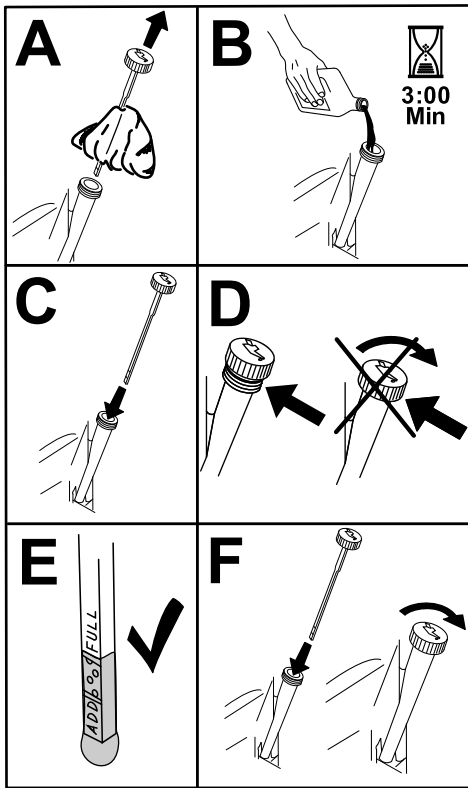

Figure 29
5. Slowly pour approximately 80% of the specified oil into the filler tube (Figure 29).